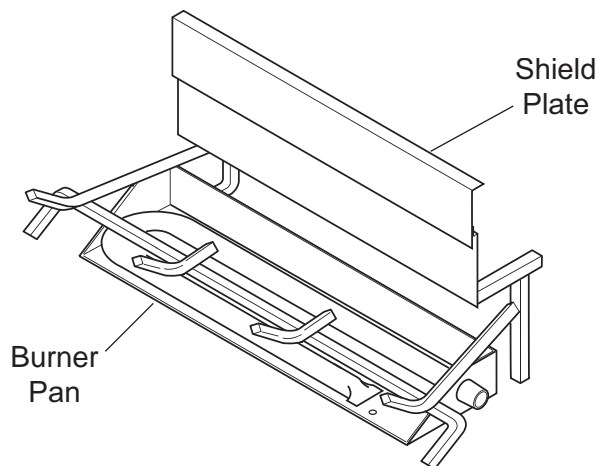

Figure 123 - Sliding Shield Plate Down Back of Burner Pan
1. Slide shield plate down back of burner pan. *See Figure 123.*